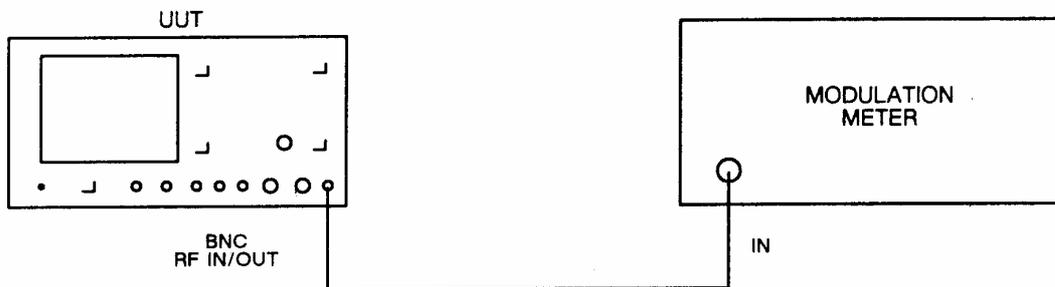

Fig. 5-1-25 Test equipment connections for RF generator FM on CW performance checks
- (1) Connect the equipment as shown in Fig. 5-1-25.